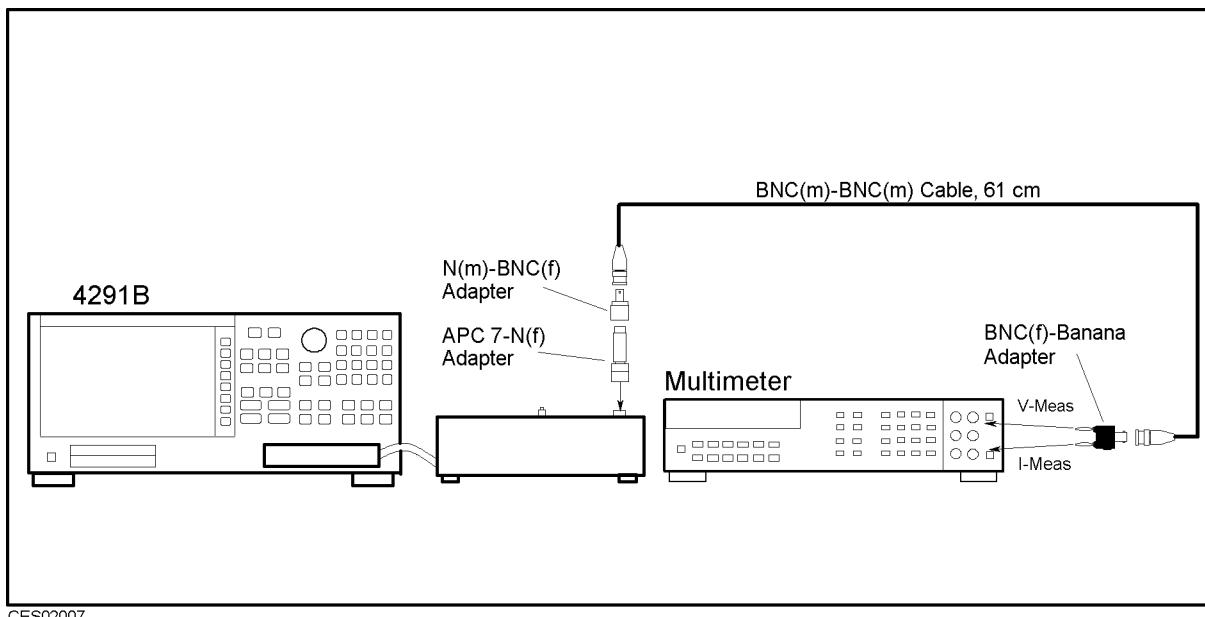

Figure 3-19. DC Bias Level Correction Constants Setup
3. Follow the adjustment program instructions to update the correction constants. Figure 3-19 shows the equipment setup for the Correction Constants. the "GND" side of the BNC(f)-Banana adapter must be connected to the multimeter's "LO" terminal.